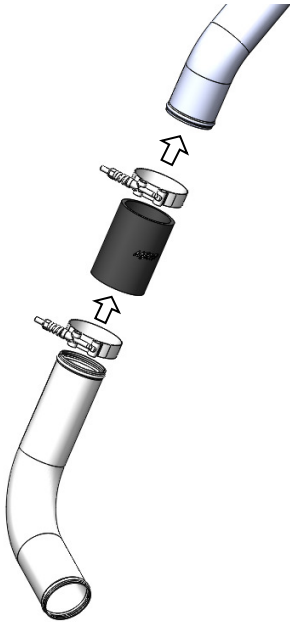

Figure 4
4. Install the **2.5” X 4” Hose Coupler** onto the bottom end of the **LHS Upper Intercooler Pipe**, securing it using a **2.5” Hose Clamp**. **Refer to Figure 4.**
6. Insert the shorter end of the **LHS Lower Intercooler Pipe** into the **2.5" Hump Hose Coupler** with a **2.5" Hose Clamp**, and the longer end into the **2.5" X 4" Hose Coupler** with another **2.5" Hose Clamp** (Refer to **Figure 4**). Do not fully tighten the clamps yet.